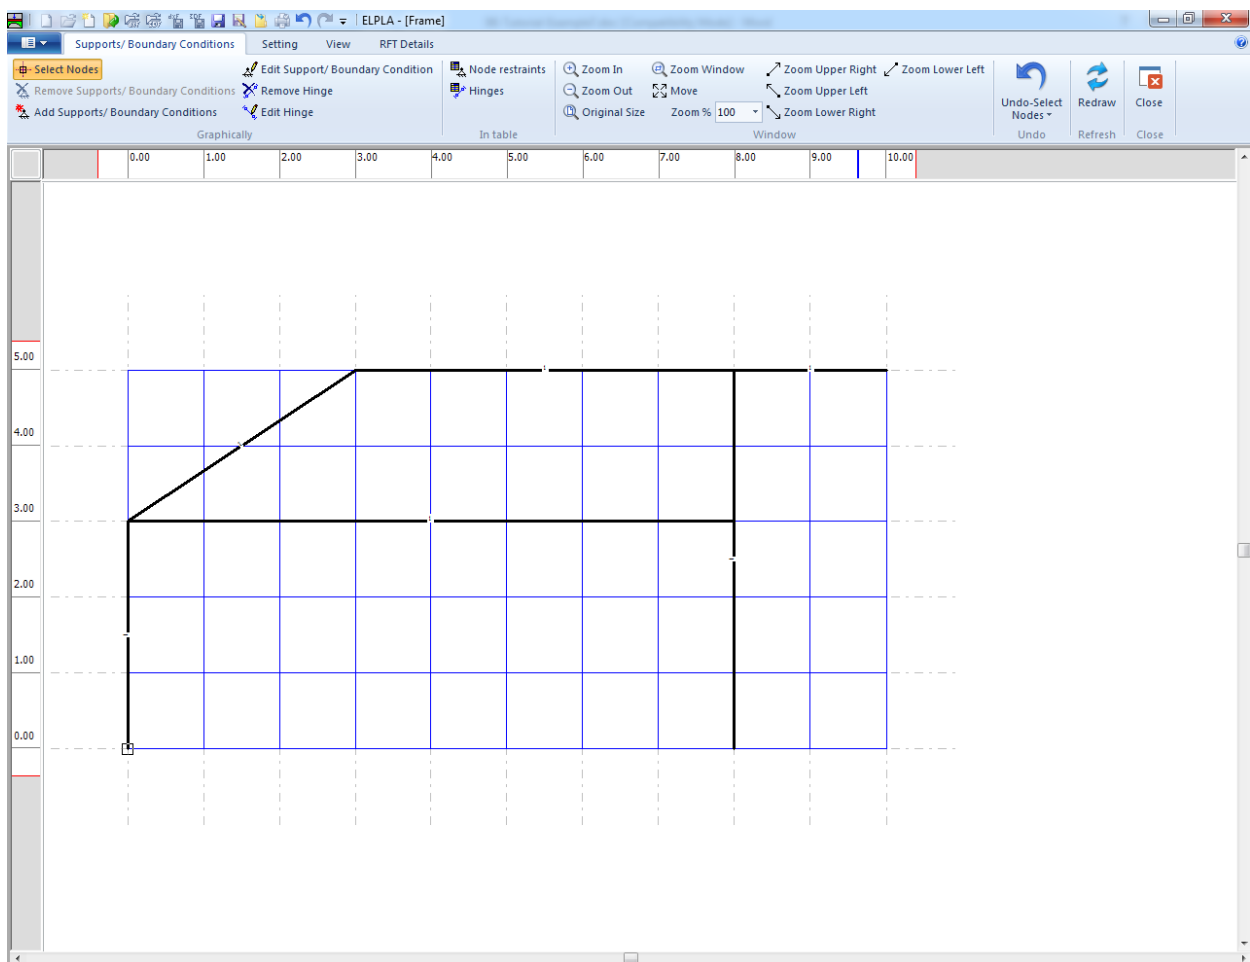
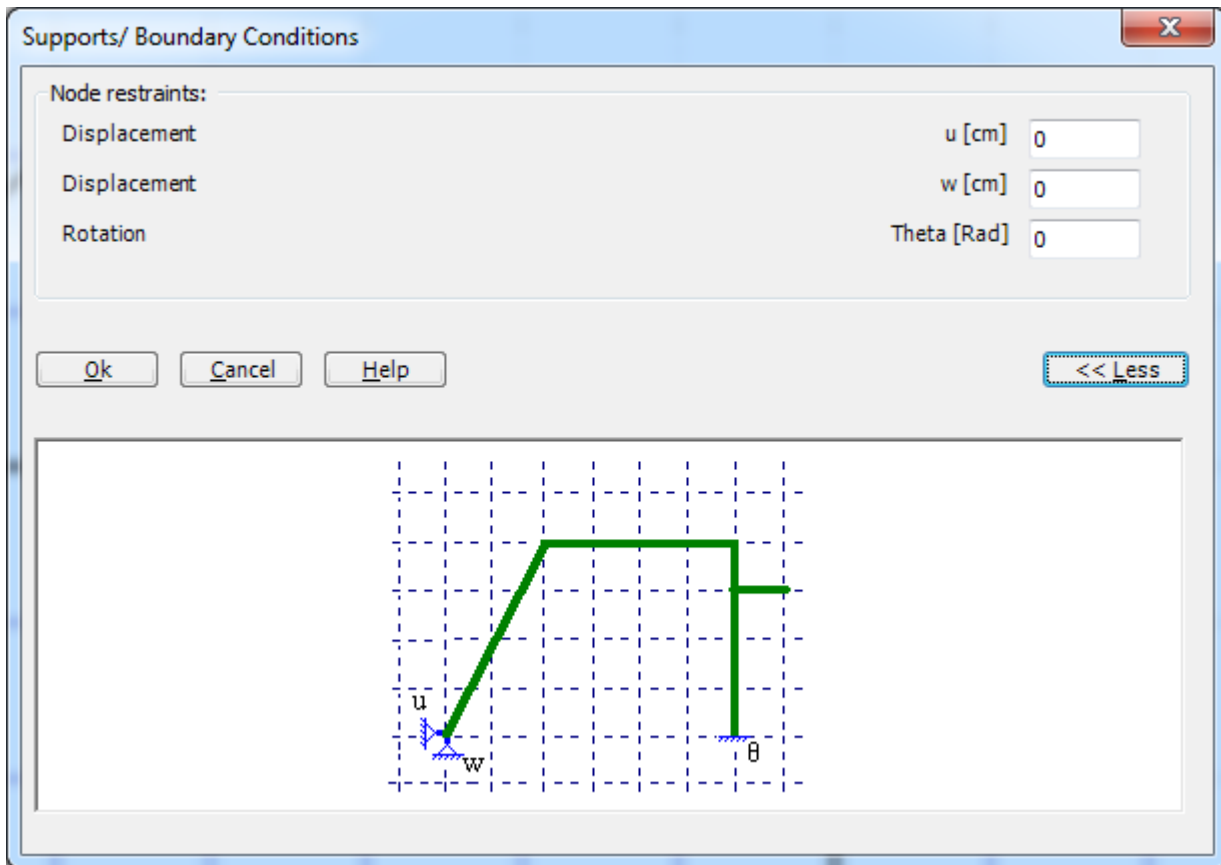

Figure 7.21 Selection of fixed support node
Figure 7.22 "Supports/ Boundary Conditions" dialog box
- Click the left mouse button on nodes that have the fixed supports as shown in Figure 7.21
- Choose "Add Supports/Boundary Conditions" command from "Graphically" menu in Figure 7.21. "Supports/ Boundary Conditions" dialog box in Figure 7.22 appears